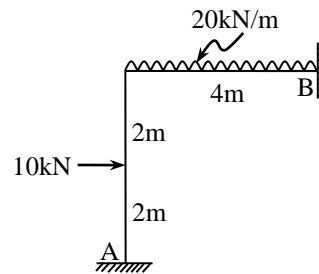

Fig. 2 Q-3(a) OR
- Q.3** (a) Find out displacements for the plane frame shown in fig. 2 using stiffness member approach. All members have the same EI & EA. Take EA = 120 EI. **07**